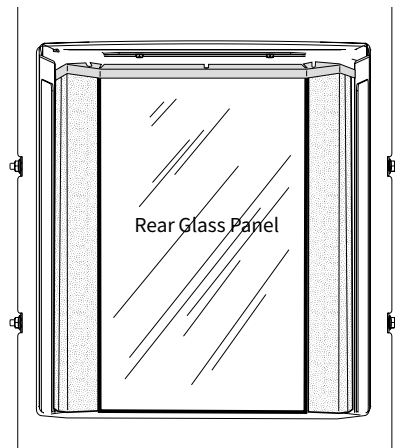

Figure 26. Install Rear Glass Panel.
- Orient the rear panel, smooth side out, textured side in.** Rest the bottom of the panel on the burner skirt, centered against the back wall. See fig. 26.